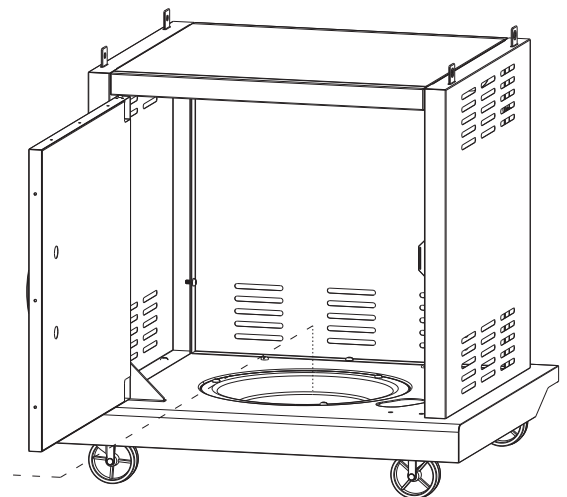

Fig.4
1. Open the doors of the cabinet. Place a 20 lb. (20 lb.) tank with foot ring into the tank tray. See Fig. 4. Make sure the tank valve is in the OFF position.